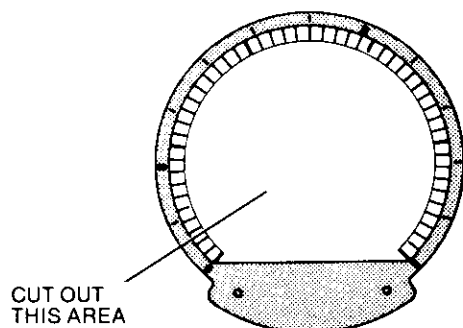

FIGURE 14 "Dummy" Scale
3. Dummy Scale — See Figure 14.